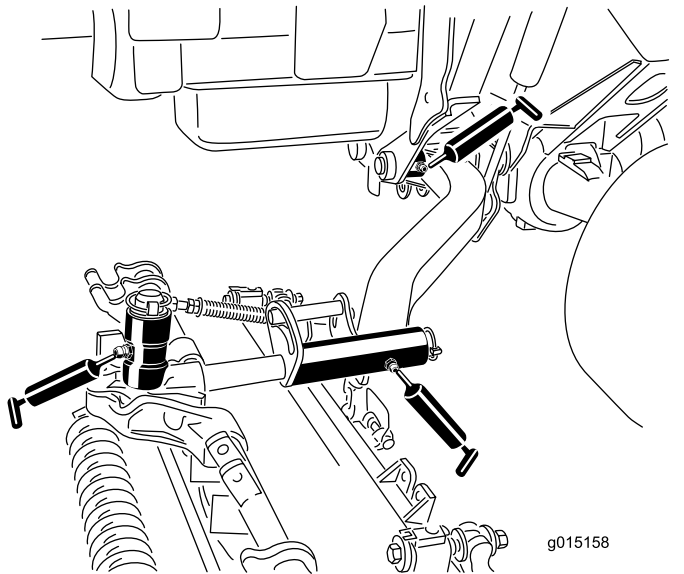

Figure 60
- Lift arm pivot bushings (1 per cutting unit), refer to Figure 60
- Cutting unit carrier frame (2 per cutting unit), refer to Figure 60
- Cutting unit lift arm pivot (1 per cutting unit), refer to Figure 60